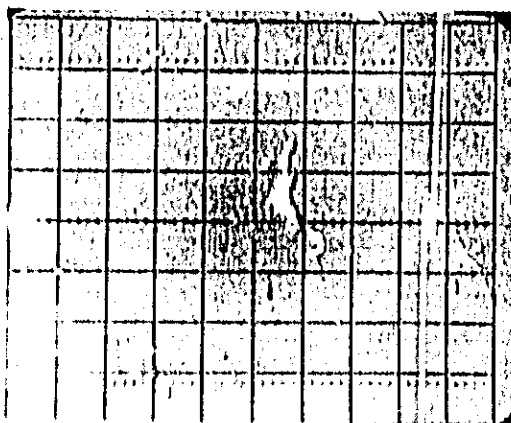

Figure 5-3. A3TP1 after adjustment.
- nm. Adjust A3R19 (POS) until the initial dc value of the first triangle wave coincides with the center line on the oscilloscope graticule. Now adjust A3R18 (NEG) until the final dc value of the first triangle wave coincides with the center line on the oscilloscope graticule. See Figure 5-3.